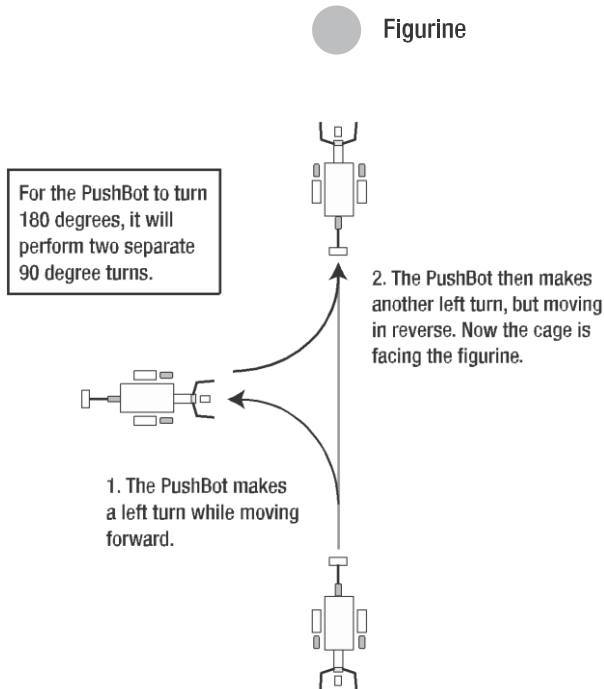
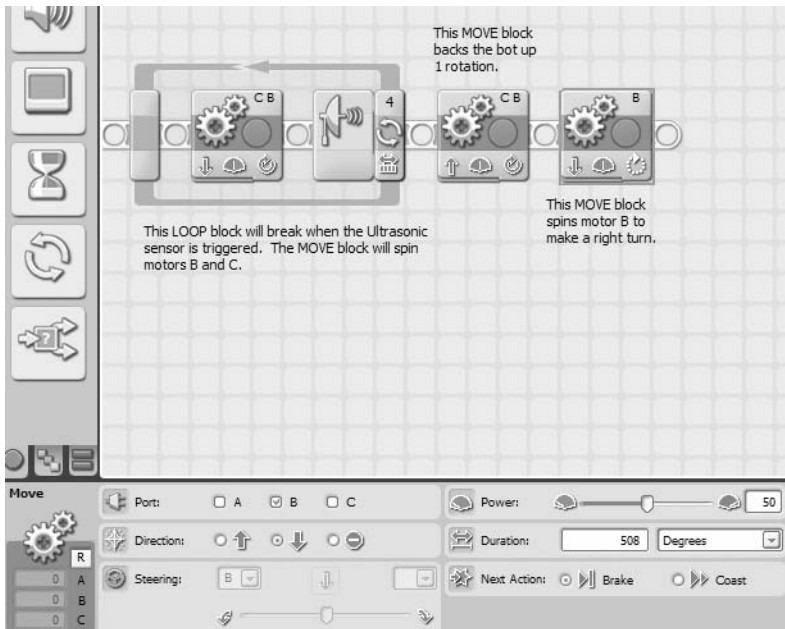

Figure 20-7. *The PushBot can turn 180 degrees by a combination of MOVE blocks.*
Figure 20-8. This MOVE block allows the PushBot to make a right turn.
Next, I will turn ONLY motor B so the bot turns 90 degrees to the left. I will follow this with a MOVE block that turns ONLY motor C so the bot turns 90 degrees to the right. At this point, the PushBot will be facing the reverse direction. This is demonstrated in Figure 20-7.
I used the method described in Chapter 4 for obtaining the correct number of degrees for motors B and C to turn. For my PushBot, the right turn (motor B) made in Figure 20-7 requires 508 degrees. For the left turn (motor C), the motor is configured for -513 degrees (the negative sign simply tells me to configure motor C for 513 degrees but to also change the spin direction). You cannot use a negative number as a duration, so you must enter the same value (513) but select the opposite spin direction. Figure 20-8 shows the MOVE block for the right turn.